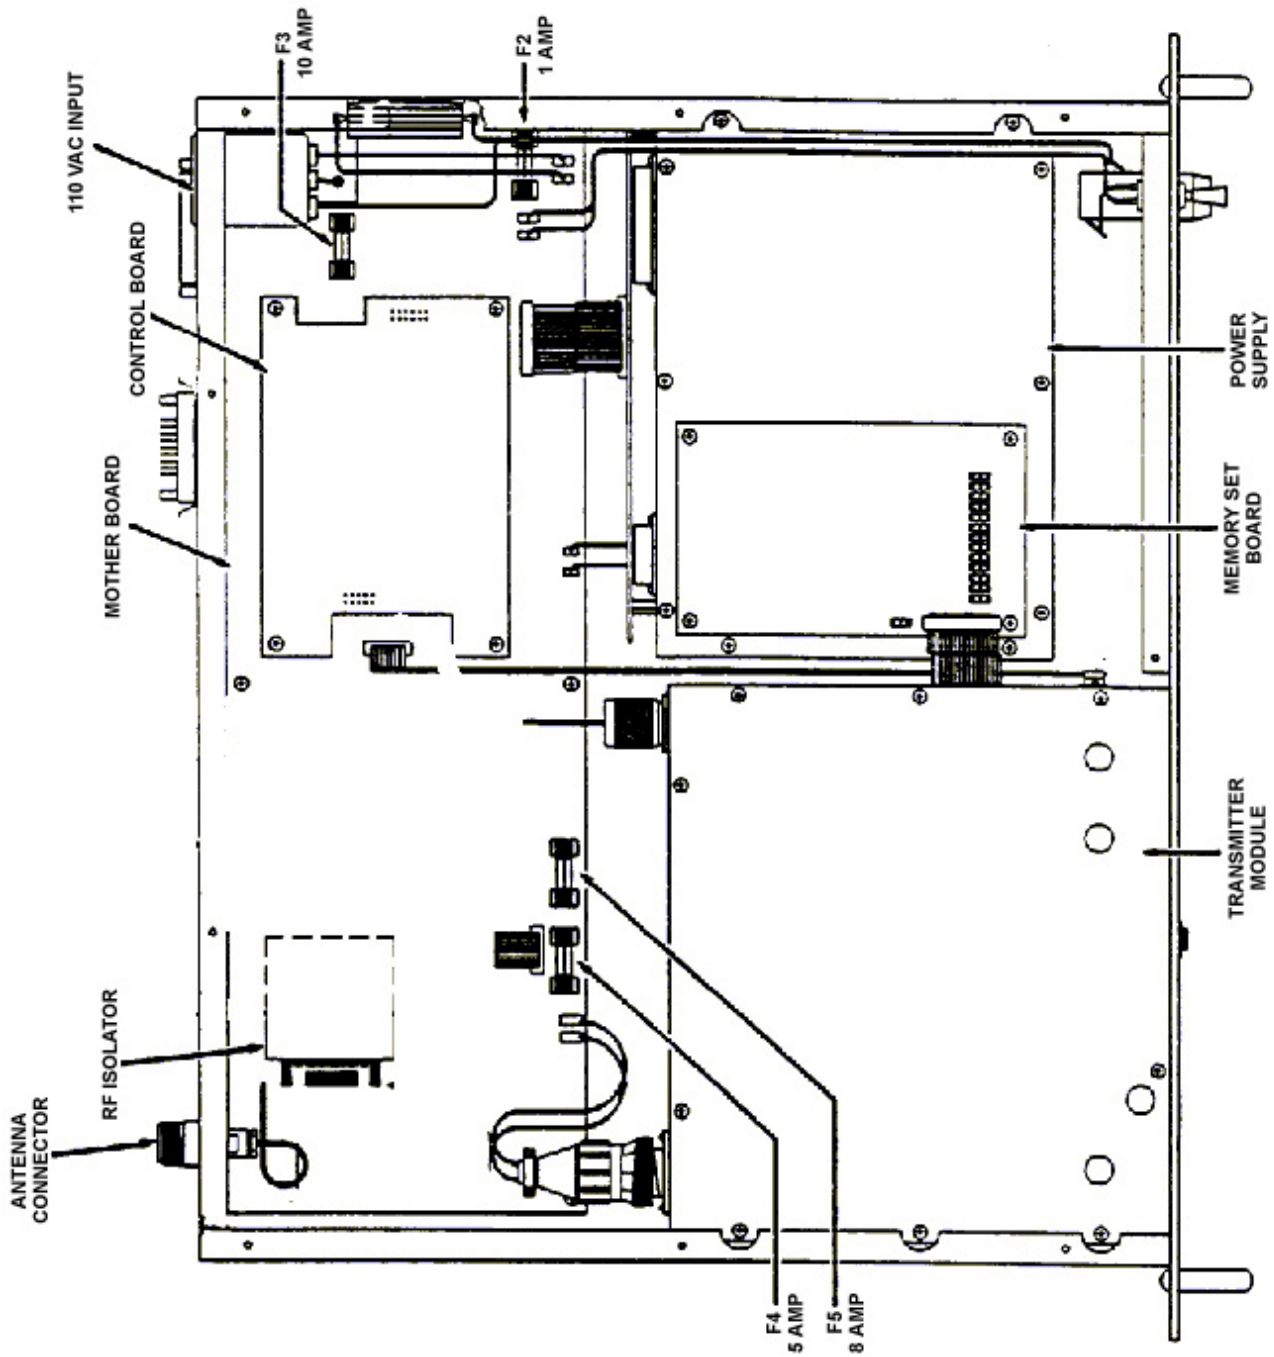

Figure 3. Model 1791 Internal View
- 3 Lift the cover clear of the chassis to expose the internal view of the transmitter as shown in Figure 3.